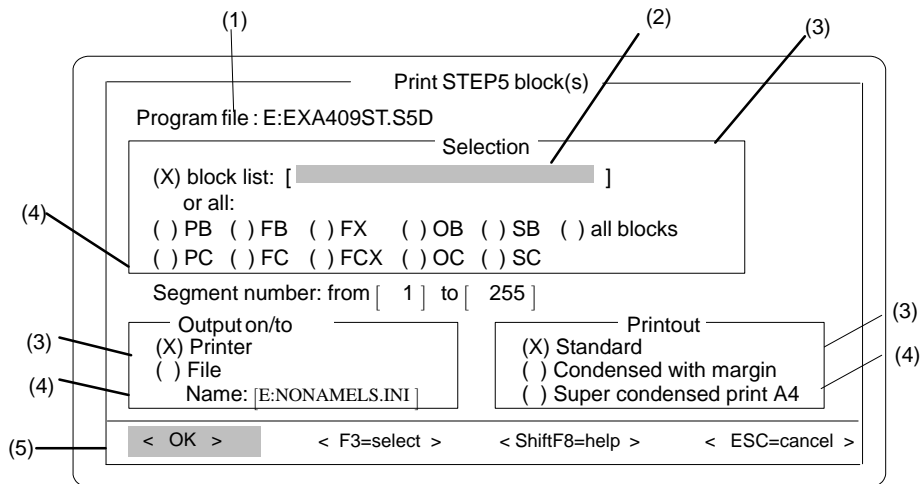
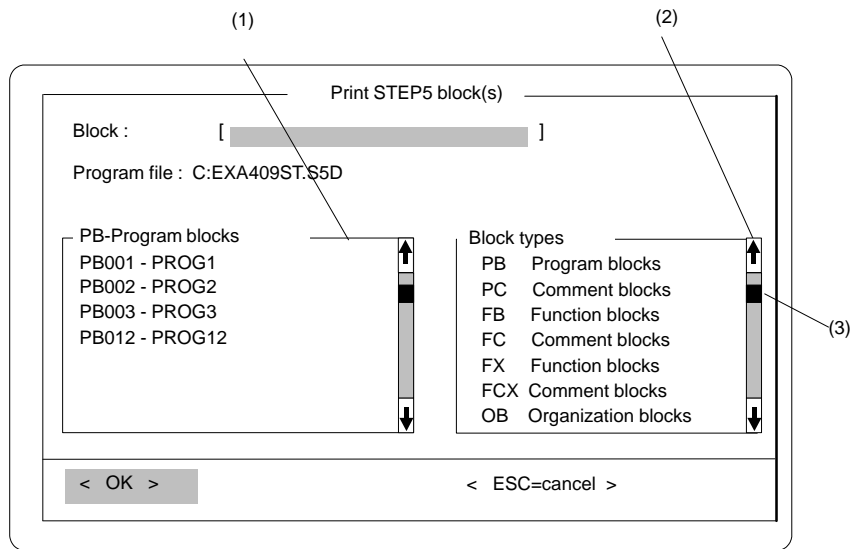
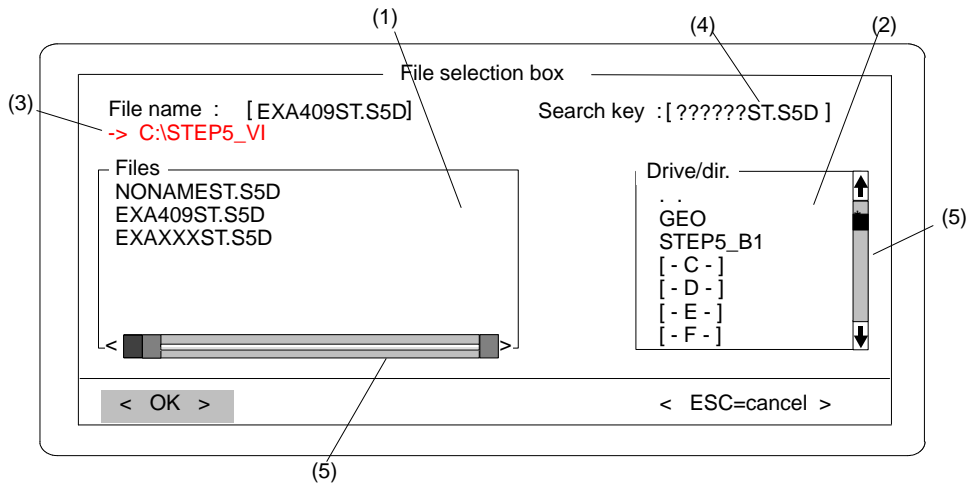

Figure 3-5 Example of a Job Box
Figure 3-6 Example of a Block Selection Box
Figure 3-7 Example of a File Selection Box
If more information is required before a function can be executed (marked by “...” in the menu), STEP 5 opens a job box (*Figure 3-5*). In some situations, this box is adapted to the individual functions and can have more or less input fields. In these input fields, you enter the name or the parameters to specify your task or job. Displayed objects and options are selected by entering an “x”. When you complete the name fields, you can display information about existing or possible blocks (block types) in the selection box and select them directly.
- Job boxes as shown in *Figure 3-5*. The corresponding function can only be activated from this box.
- Block selection boxes as shown in *Figure 3-6*.
- File selection boxes as shown in *Figure 3-7*.
Job box	This box type ( Figure 3-5 ) is always displayed when you want to activate a function within a function menu.
Selecting Input Fields	Fields in the job box and key functions (→ Appendix 4 Key Assignment ) that can be used to guide the cursor in the fields of the job box ( Figure 3-5 ). (2) Selection field  Selection boxes for blocks or files are displayed by pressing F3 . These fields have a colored background or are displayed inversely.
(3) Fields within a frame
If the cursor is positioned in a name field (*Figure 3-5*) and you press the **F3** key, a block or file selection box is displayed. In these boxes (*Figure 3-6/Figure 3-7*) you can select an object directly for processing.